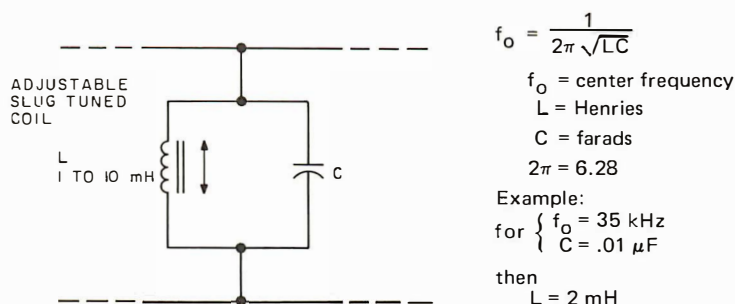

Figure 2: Calculation of inductor and capacitor values for the tuned bandpass filter used in the receiver's input section.
Figure 2. Sequence of events when the light wand is moved across a series of light and dark data bars. In this format the size of the black bars are changing and the size of the white spacings in between remains constant.
conducts, and capacitor C2 is charged to a voltage one diode drop (about 0.6 V) below the white level output from the amplifier. As the wand moves over the first black bar the amplifier output voltage falls, and diode D3 is cut off. When the output voltage falls to the same level as that across C2, the output from the comparator A4 switches to maximum (about 3.5 V). As the signal continues to fall, diode D4 conducts, and the voltage across C2 follows the signal except that it is now one diode drop more positive. As the wand moves onto a white bar, the signal voltage rises, and diode D4 is cut off. When the signal rises to a value equal to that across C2, the output of the comparator A4 falls to ground. As the signal continues to rise towards the white level, D3 conducts and the voltage across C2 follows. This time it is one diode drop less positive than the signal. Unity gain buffer stage A3 and transistors Q2, Q3 provide a low impedance drive to the decision circuit to ensure that the charging and discharging of capacitor C2 does not distort the signal at high reading speeds. The sequence of operation of the circuit is illustrated in figure 2. Notice that the digital output of this circuit follows the usual convention of a high level for black, and a low level for white. If this is not convenient, the two inputs of comparator A4 may be interchanged.
The use of an LC filter does require some component value changes to cover the 30 kHz to 110 kHz range of the transmitter. Figure 2 is the schematic of the LC combination in question and includes the formulas required to make this calculation. Again, calculations are only part of the answer and are acceptable only in 2 or 3 channel applications. For optimum tuning, the component values should be chosen according to the equation. Then using an oscilloscope, measure the voltage across the LC circuit and slowly adjust the slug-tuned coil to peak at the desired frequency. A voltmeter on the AC setting will not respond sufficiently; only an oscilloscope with high impedance inputs should be used.
3. The values of L and C in the tuned filter are computed for the particular center frequency chosen (see figure 2). In general L should be an adjustable slug tuned in a range of 1 to 10 mH. C will range from .001 to .01.